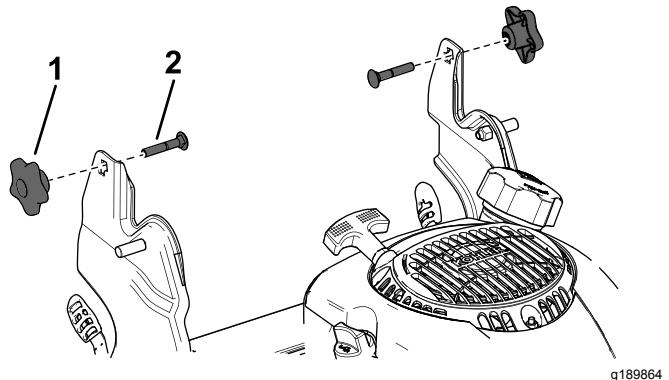

Figure 20
3. Insert the carriage bolt (with the bolt head toward the inside) through the handle bracket and the upper hole in the handle end. Ensure that the square edges of each carriage bolt fits into the upper or lower square hole in its related handle bracket (Figure 20).